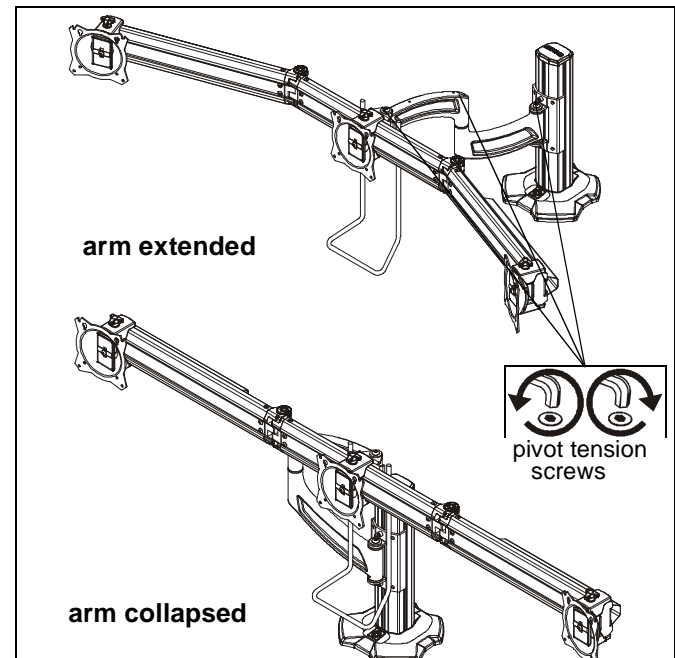

Figure 18
1. Use handle to extend or collapse column arm (Z) as desired. (See Figure 18)
2. (Optional) Loosen or tighten column arm pivot tension screws as desired to increase or decrease pivot tension. (See Figure 18)